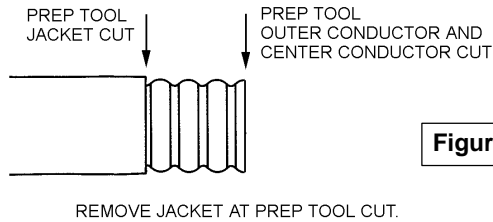

Figure 5.
6. With a knife, remove the trimmed jacket from the cable. See Figure 5.